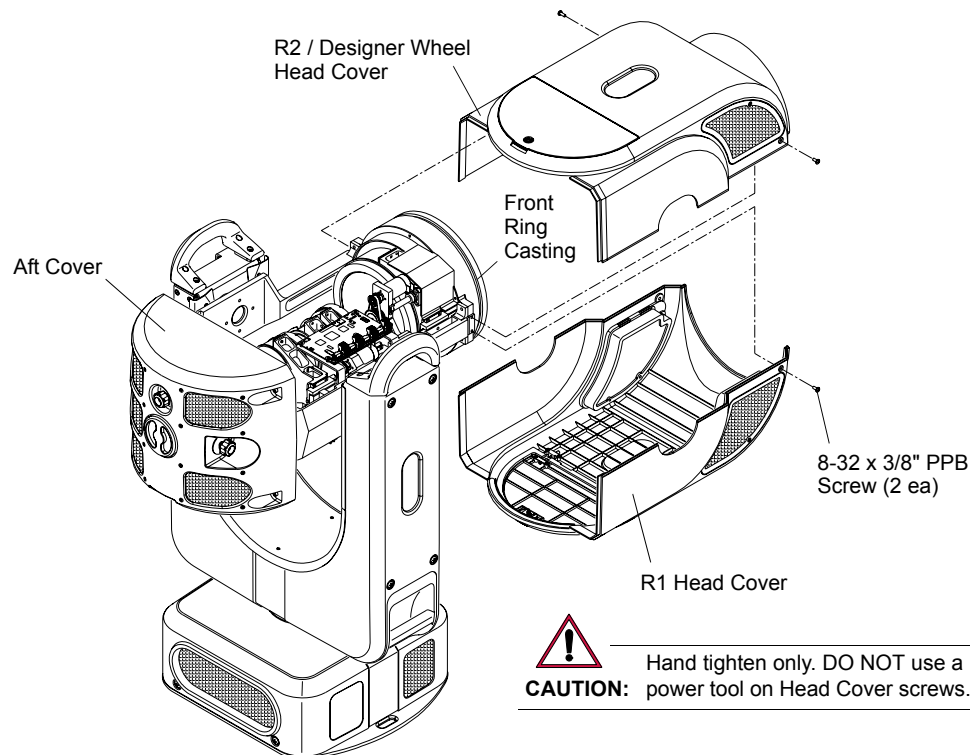

Figure 4-1: Removing Head Covers
- Step 1. At Head Cover, remove two 8-32 x 3/8" PPB screws (Figure 4-1).